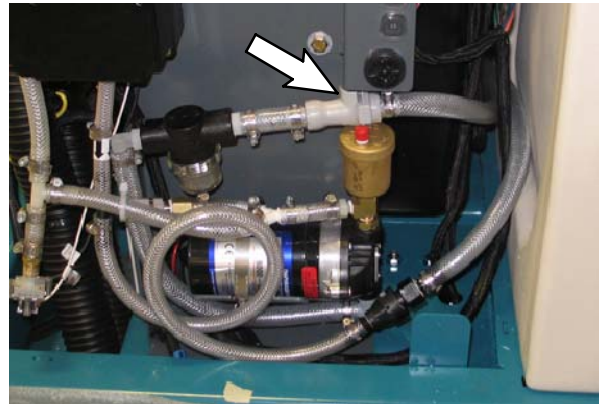

FIG. 16
29. Connect solution supply hose to the *ec-H2O* assembly inlet hose. Refer to Fig. 16.